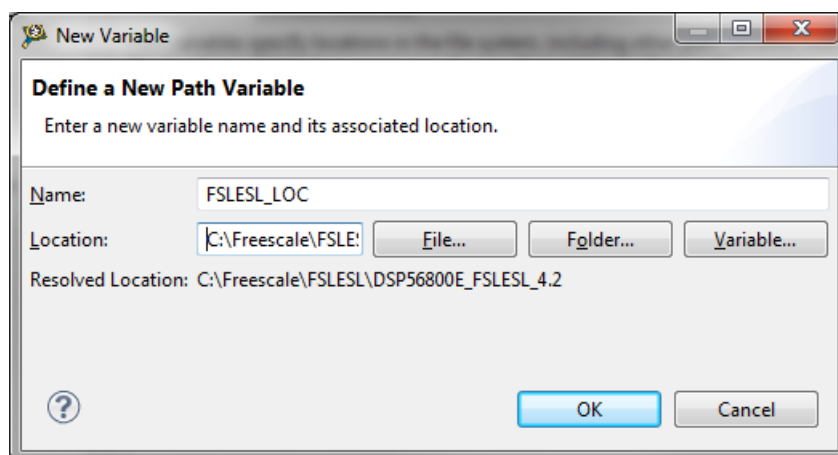

Figure 1-7. New variable
4. In the dialog that appears (see Figure 1-7), type this variable name into the Name box: FSLESL\_LOC